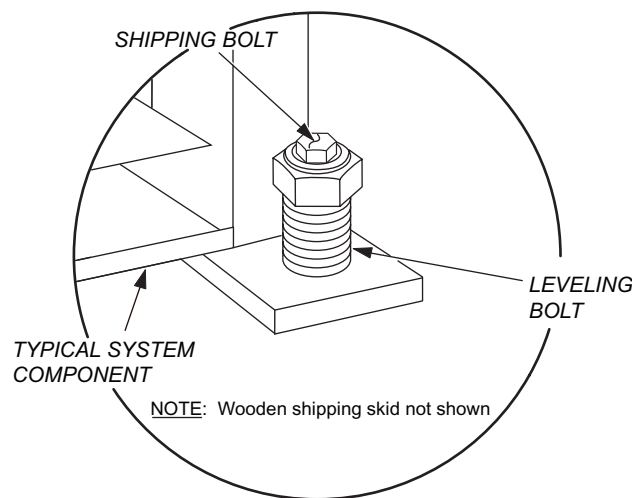

Figure 7 Typical Shipping Bolt Removal
1. Unbolt each component from its shipping skid using a $\frac{3}{4}$ -inch socket (see Figure 7).